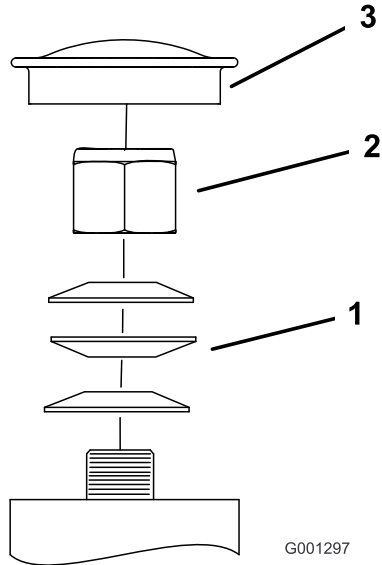

Figure 65
3. Remove the dust cap from caster and tighten the locknut (Figure 65).
4. Tighten the locknut until the spring washers are flat, and then back off a 1/4 turn to properly set the preload on the bearings (Figure 65).
Important: Make sure that the spring washers are installed correctly as shown in **Figure 65**.
5. Install the dust cap (**Figure 65**).